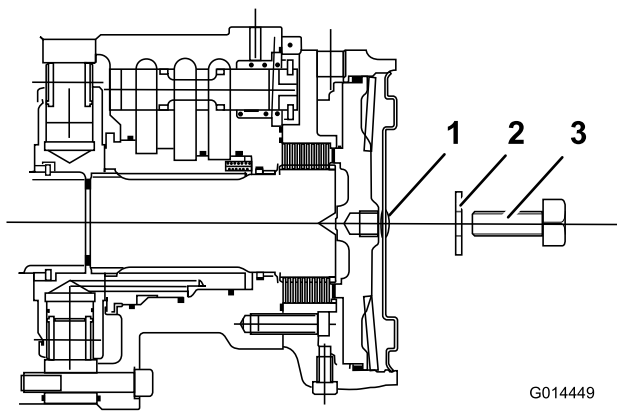

Figure 60
4. Install a M12 x 40 mm long setscrew with washer into the hole in the centre of the motor end plate (Figure 60).
5. Tighten the setscrew into the threaded hole in the brake piston until the brake is released (Figure 60).
6. Identify the left hand front wheel motor disc brake assembly and repeat the previous procedure (Figure 60).